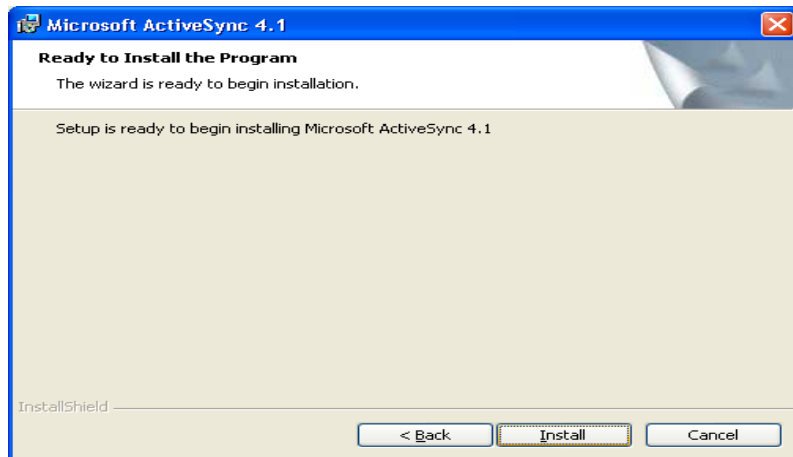

Figure 7.37
If the path is selected correctly, then press the button marked **Install** in the next window (**Figure 7.37**) to begin the installation of the program. When the installation is completed the window will appear where you should press the button **Finish**.
- turn the KI 6700 on, connect the device to the PC through a USB port and wait till the connection is set (activating the program **ActiveSync** – appearing of the window shown in **Figure 7.37**);
- press the button “**Explore**” in the window shown in **Figure 7.37**